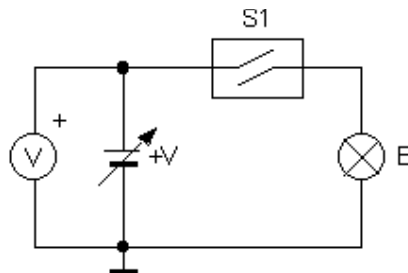

Fig. 4.3: Electrical diagram of Magnetic Switch
9. The system has the electrical diagram as in Fig. 4.3;